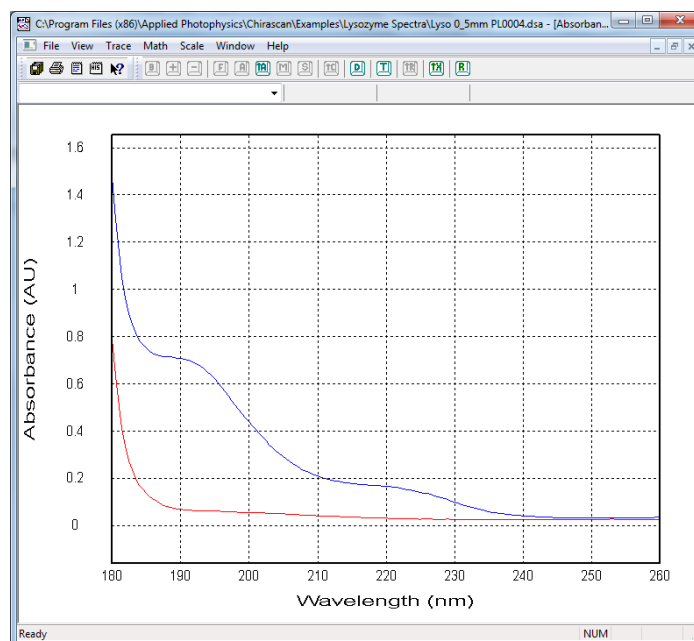

Figure 5.8: absorbance spectra for water (red) and lysozyme in water, relative to N_2
- In addition, the Absorbance can be plotted if it was selected when setting the experimental conditions and a background has been run (Figure 5.8), and the Fluorescence can be plotted if it was selected and a fluorescence detector was fitted (see the Fluorescence Accessories User Manual).